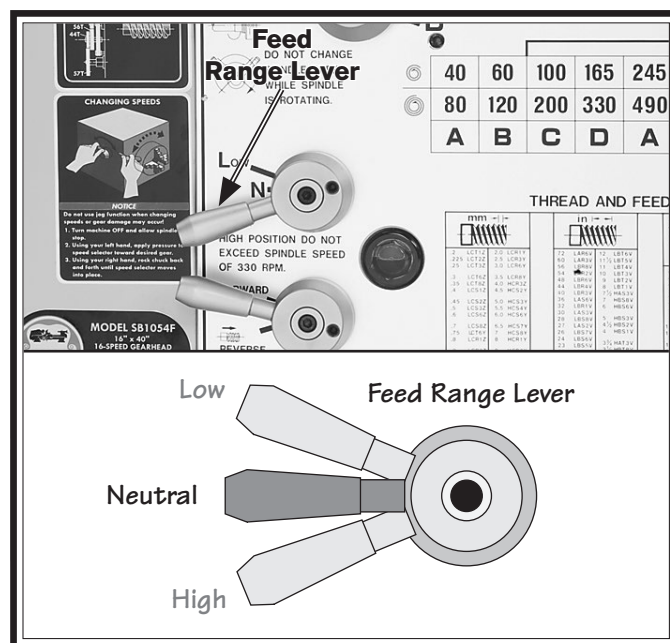

Figure 30. Feed range lever.
7. To ensure the carriage components do not unexpectedly move when the lathe is started, move the feed range lever to the neutral (middle) position (see **Figure 30**).